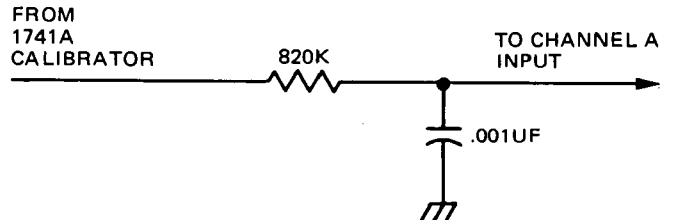

Figure 3-5. RC Network for B-scan Erase
- f. Connect a sine wave generator or the RC Network (shown in figure 3-5) to 1741A CALIBRATOR output and to Channel A INPUT connector.